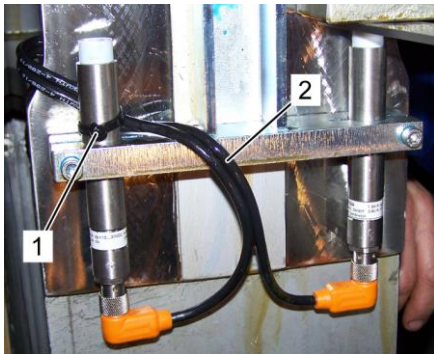

Fig. 43: Cable tie
11. Fix both cables (Fig. 43/2) with a cable tie (Fig. 43/1) and lead them towards the magnetic clips (grip magnets) or screwable fastening clamps.